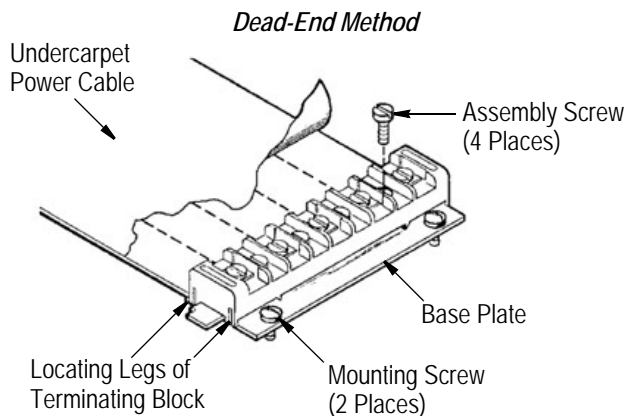

Figure 3
5. Center the terminal block (along with the cable) on the base plate using the locating legs. Make sure to orient the terminal block so that the cable is opposite the mounting screw holes of the base plate. See Figure 3.
6. Insert the 4 assembly screws into the holes in the terminal block. See Figure 3. Tap each screw head lightly so that the screw starts entry into the cable, then alternately tighten the screws to a torque of 2.26 Nm [20 in.-lb].